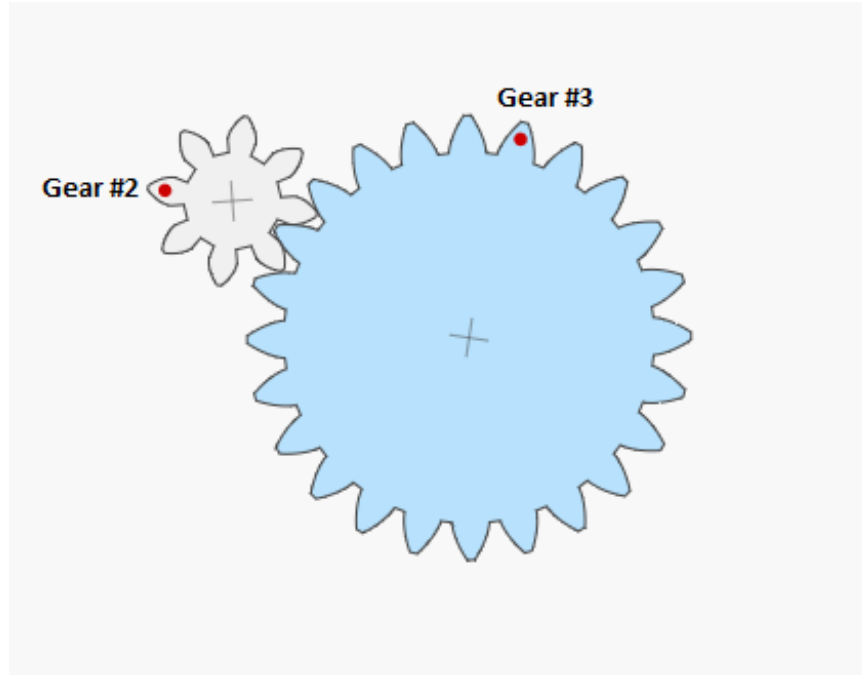

Figure 5. A pair of gears. Gear #2 on the left is driving gear #3
- We will remove gear #0 from the model. As it is driven by a motor, it will serve as the torque input τ in the model. Since gears #1 and #2 are fused together, we may proceed with just the pair #2 and #3. See Figure 5.
Use the information below to label each gear in Figure 5 with forces and torques.
According to Figure 5:
D'Alembert's principle is an alternative form of Newton's second law of motion, i.e. $F = ma$. It states that a body is in equilibrium under the action of a real force F and a fictitious force $-ma$, or equivalently that $F - ma = 0$. You have already turned the forces acting on the gears in Figure 5 into torques. Then, by D'Alembert's principle the torques acting on each of the gears must sum to zero. Write a differential equation describing the rotation of each gear.